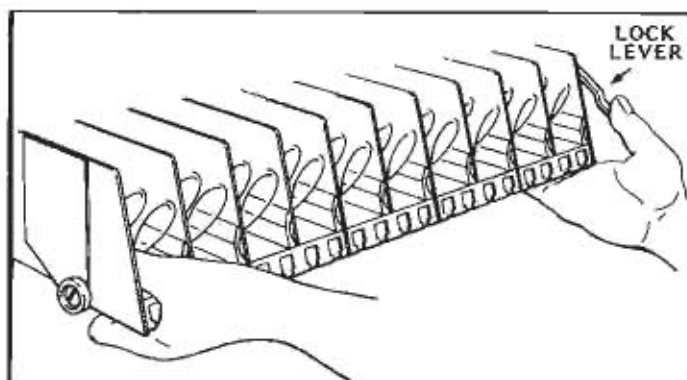

Figure 1. MOVING SHELF TO LOADING POSITION.
4. **LOADING SNACK SHELVES:** Open door to full open position, push down on white plastic lock lever (Figure 1) on right side panel by shelf to unlock shelf, holding lever down. Grasp the shelf slightly and pull forward until shelf reaches its stop. The shelves tilt down (do not drop) to make loading easier. Only one product shelf should be in the loading position at a time. When returning a shelf, be sure the shelf is in its full home or vend position. Begin loading with the top shelf. Move it to the loading position. The height spacing for items is greatest in this shelf and the tallest bagged items should be placed there. Soft items, such as pastry, pies, etc., should be placed in the lowest snack shelf, making the drop distance as short as possible.
- Lift up and push the lock lever toward the back of cabinet. See Figure 1, Page 5.